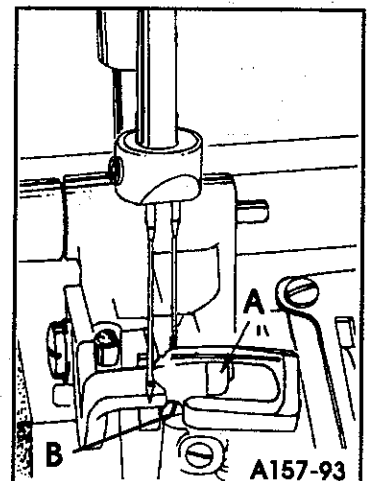

FIG. 12
Parallel adjustment can be made by loosening nut (A, Fig. 12) and turn screw (B) clockwise to lower front of feed dog, counterclockwise acts the reverse. When properly set, retighten nut (A).